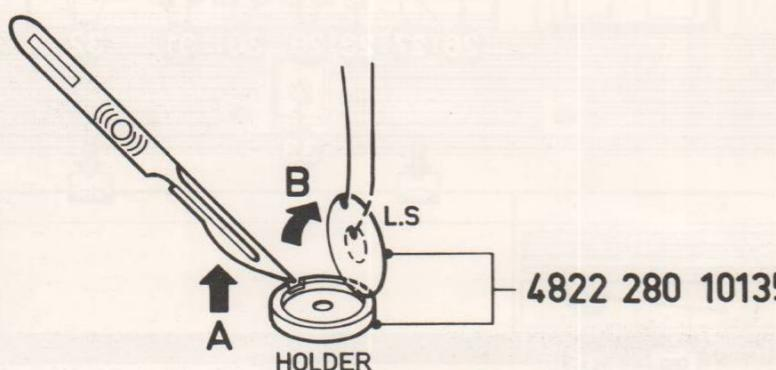

Fig. 1
- Take the piezo element out of its housing in a manner similar to the one shown in Fig. 1.